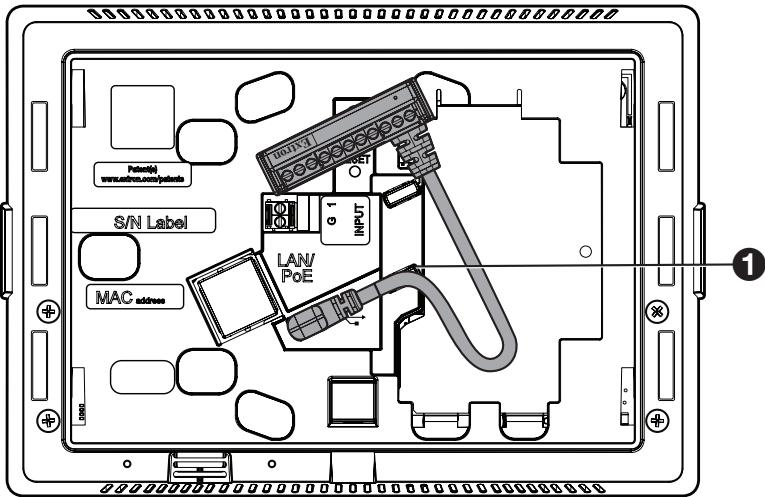

Figure 12. Mounting TLCA 1 to a Wall Mount Touchpanel
On the backside of the 525M, 725M, and 1025M touchpanels is a plastic slot (see figure 12, ❶) where a small zip tie (included with the TLP) can be used to secure the cable of the TLCA 1.